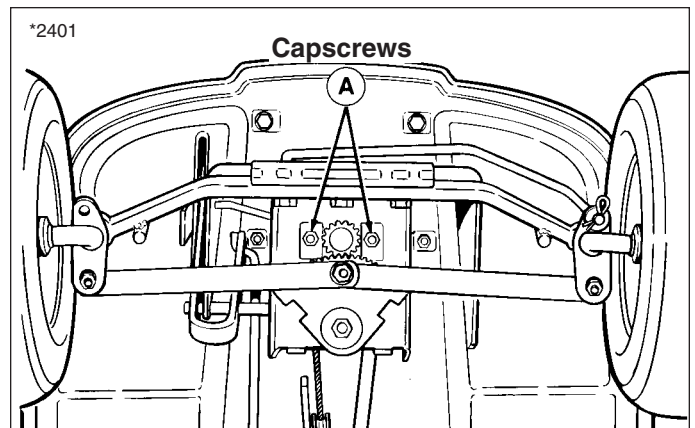

Figure 23. Steering Gear Adjustment
1. See Figure 23. Loosen the two capscrews (A) and push bracket so that gear teeth are closely meshed.